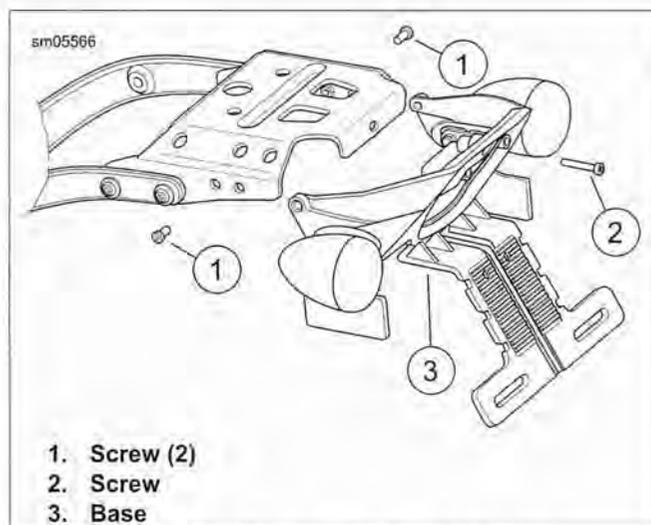

Figure 6-59. Tail Lamp Base: XR 1200X
7. **XR 1200X:** See Figure 6-59. Remove base as follows:
8. **XR 1200X:** See Figure 6-59. Install base as follows: